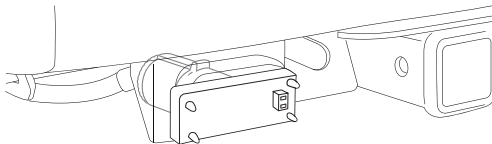

Fig.1
2. Match for the orientation and plug in the adapter generally. (Fig.1)